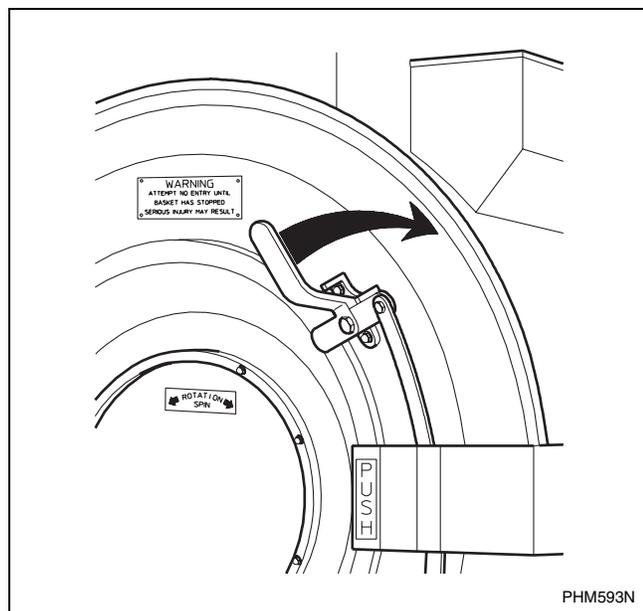

Figure 4
3. Use right hand to turn door handle clockwise and swing the door left to open. Refer to *Figure 4*.